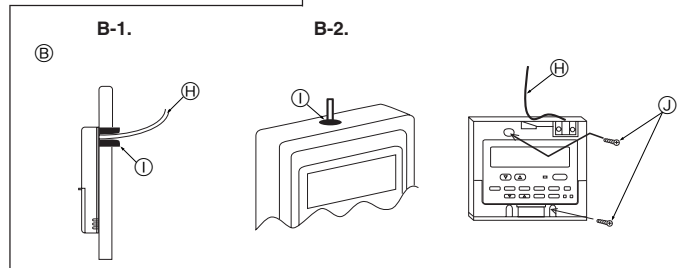

Fig. 6-5
(2) Seal the service entrance for the remote controller cord with putty to prevent possible invasion of dew drops, water, cockroaches or worms. (Fig. 6-5)